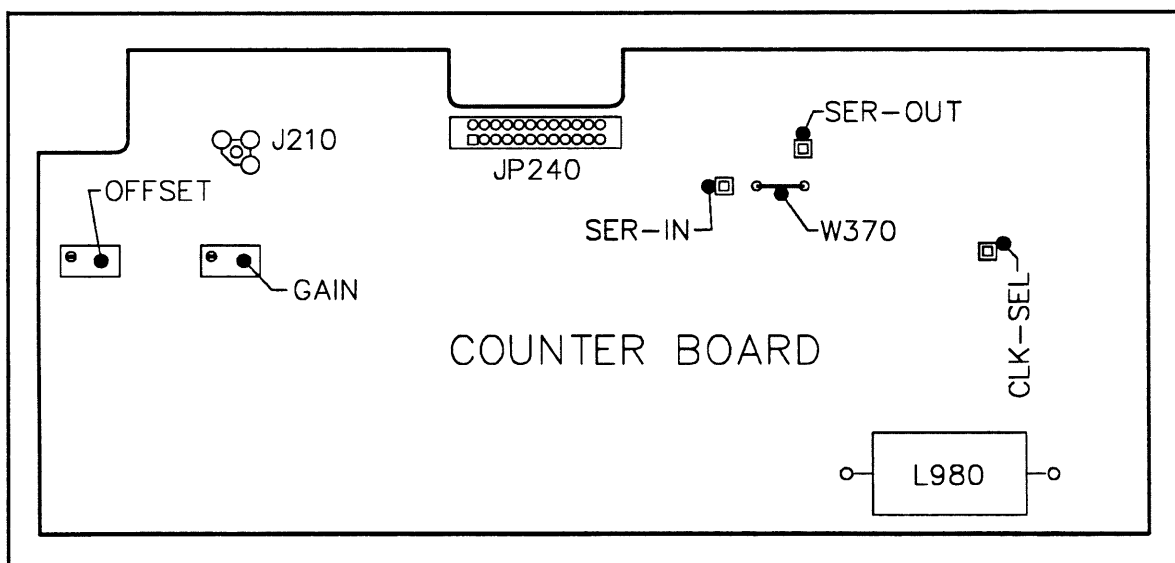
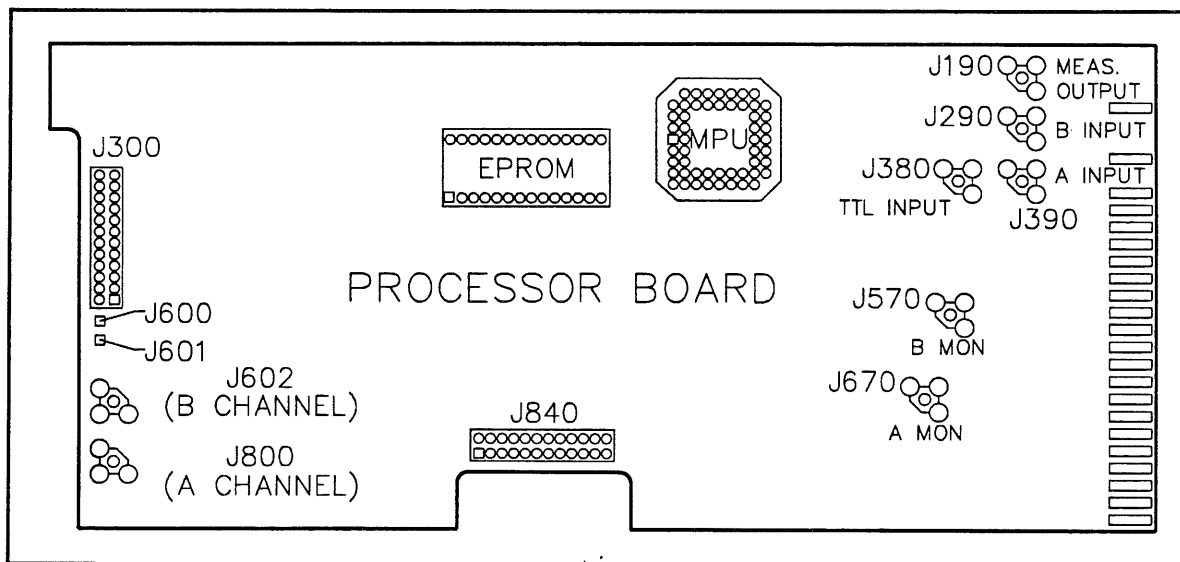

Figure 4-1. Location of Diagnostic Jumpers.
Figure 4-2. Processor Board Component Locations.
2. Using a soldering iron, lift wire jumper W370 (on the counter board). Figure 4-1 shows the location of W370.
Refer to Figure 4-1 for component locations on the counter board. Refer to Figure 4-2 for component locations on the processor board.
Refer to Figure 4-2 for component and connector locations mentioned in the following information.